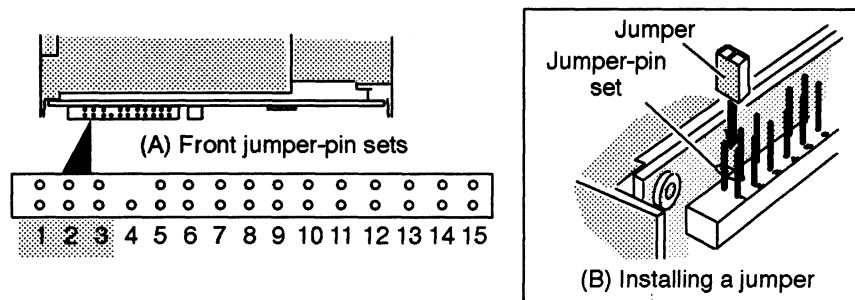

Figure 1 SCSI ID jumper settings, (A) The location of the jumper-pin sets at the front of the Model 61005-S, 61006-S, or 61007-S drive, (B) Installing a jumper
2. Once you have chosen the correct SCSI ID number, install the jumpers for that number according to the information in Figure 1.
For example, if you choose SCSI ID 1, install a jumper across front jumper-pin set 3 as indicated in the table of Figure 1 by the word IN. Do not install jumpers across front jumper-pin sets 1 and 2 as indicated by the word OUT.